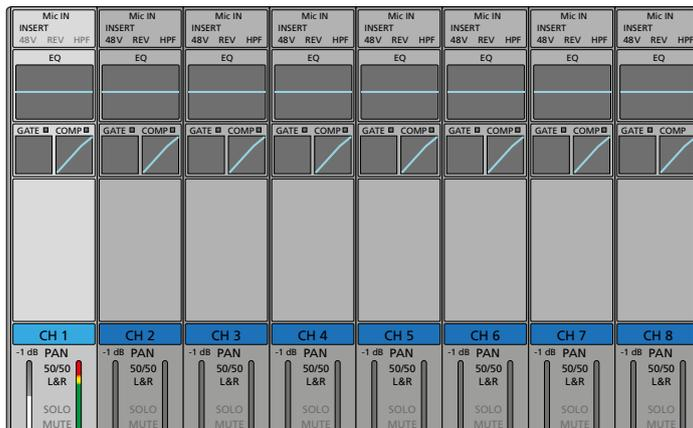
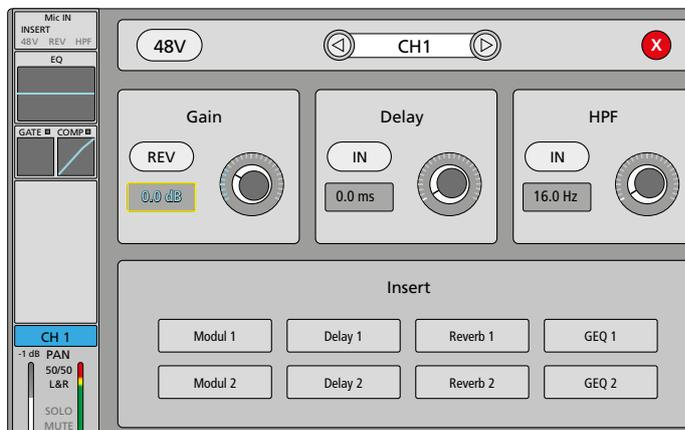

Fig. 4 Overview of input channels
Fig. 5 Matching the input
- 1) Keep the key \cup (2) pressed for approx. 5 seconds. After the start screen, the screen (1) will show an overview of the input channels IN 1–8 (fig. 4). The mixer is now ready for operation.
- 3) Press the key SEL (10) to select the input channel "CH 1". The key will be illuminated and the channel strip will be highlighted in the overview.
- 4) To call up the view for matching the input (fig. 5), tap the field "Mic IN" in the topmost section of the highlighted channel strip.
- 6) Use the control knob ADJUST (6) to adjust the input sensitivity in such a way that, when you speak into the microphone in a loud voice, the bar graph at the bottom of the channel strip will change from green to yellow at the very most. The LED VU meter (8) will also indicate the signal level. When the bar graph reaches the red level, turn back the control; otherwise, the signal will be distorted.